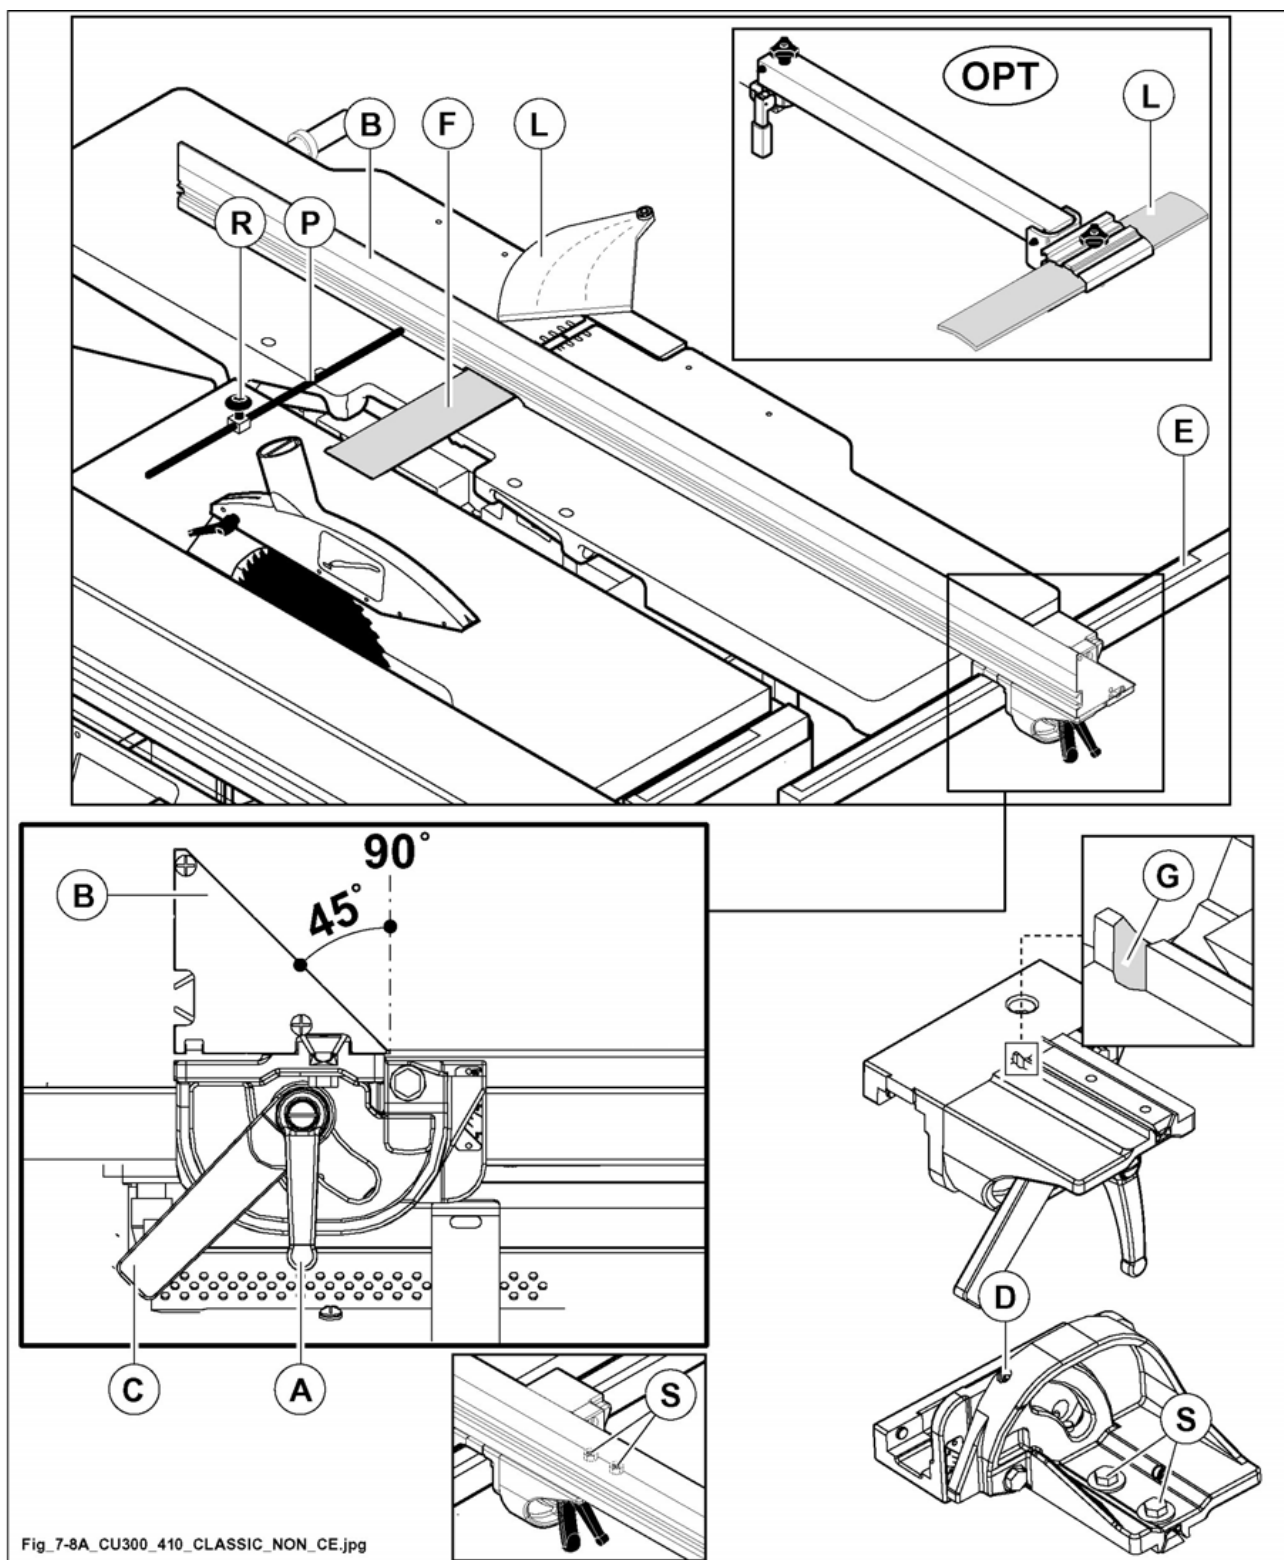

Fig. 7.8
during the machining, the protections (F fig. 7.8) and (L fig. 7.8) must always be positioned on the cutterblock.
- Loosen lever (A fig.7.8)and manually move fence (B fig.7.8) to the desired position; tighten lever (A fig.7.8).
check perfect cleanage of the sliding rod (E fig. 7.8).
fence (B fig. 7.8)may be tilted from 90° to 45° and in any intermediate position.
- Release handle (C fig 7.8) to move the fence (B fig. 7.8) to the positions outlined above; lock the lever again (C fig. 7.8).
- As soon as the adjustment has been carried out, bring the fence lock (P fig. 7.8) to the stop on the surface unit fence (B fig. 7.8) and tighten knob (R fig. 7.8).
for eventual corrections of the stops for extreme positions (90° and 45°) operate on screw (D fig. 7.8) for 90° position and on screw (G fig. 7.8) for 45° tilting.
To gain access to the screw (G fig. 7.8) disassemble the rule (B fig. 7.8), after first loosening the nuts (S fig. 7.8).